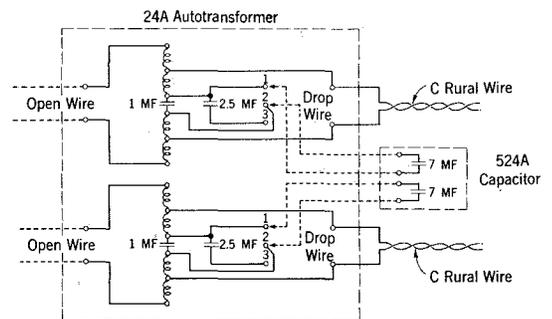

Fig. 1 – Internal Connections
2.03 The internal connection of the 24A Autotransformer and the 524A Capacitor are shown in Fig. 1.